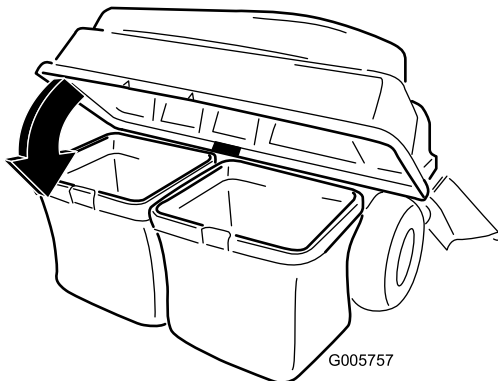

Figure 22
- Lower the bagger top onto the bags (Figure 22).